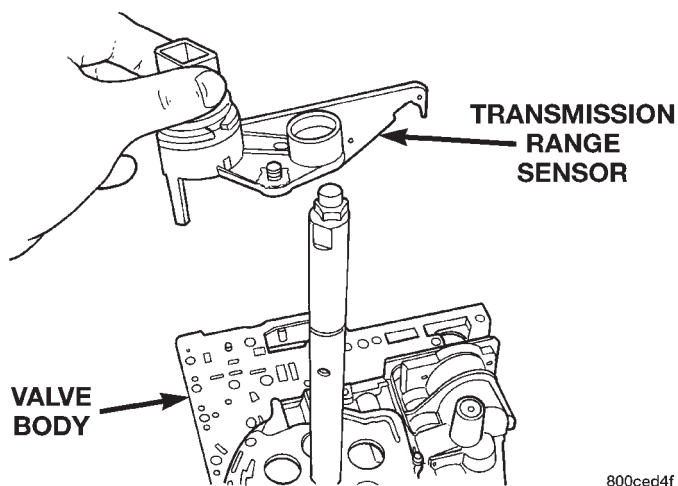

Fig. 28 Remove Transmission Range Sensor
- (14) Slide Transmission Range Sensor up the manual shaft and remove (Fig. 28).